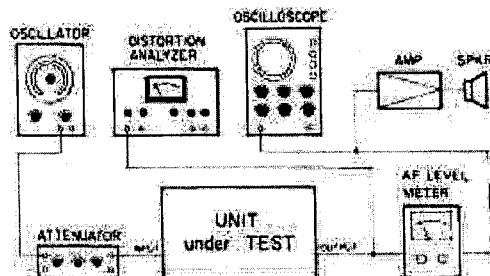

Fig. 9-7-16. Distortion Measurement Set-Up
1. Connect test equipment as shown in Fig. 9-7-16.